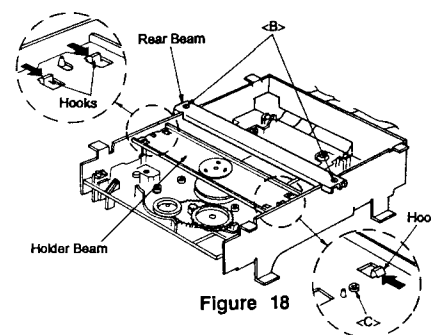

Figure 18
- (1) Remove two screws (3×6 mm), then remove the Rear Beam as shown in Figure 18.
- (2) Remove the screw <C> (2.6×8 mm) in Figure 18.
- (3) Remove the Holder Beam while pushing three Hooks as shown in Figure 18.